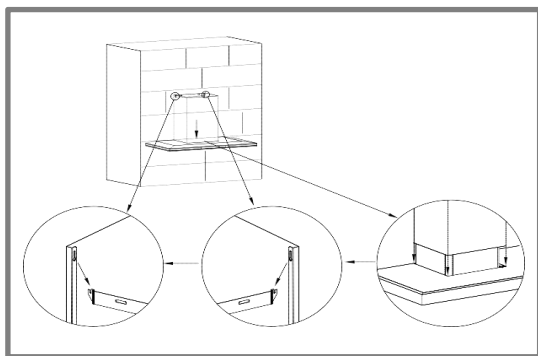
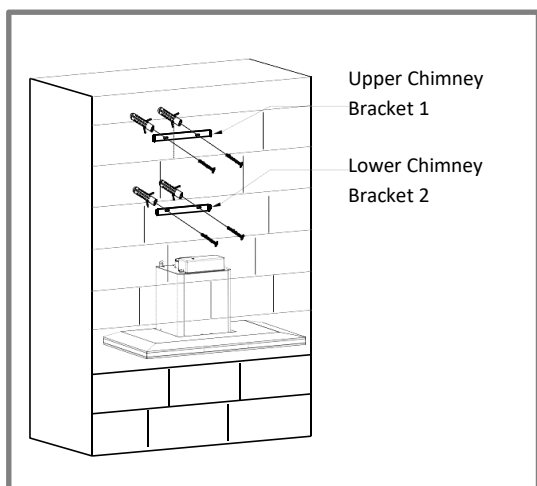
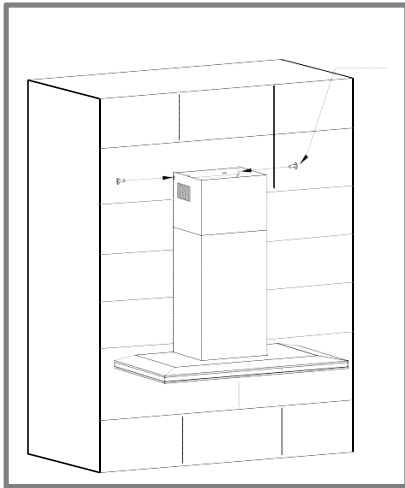

Fig.9
Fig.9.1
Fig.9.2
Step 4 (Fig.9, Fig.9.1, Fig.9.2)
- Secure the mounting bracket onto the screws firmly 1 & 2 and place the outer flue duct onto the appliances. (Fig. 9).
- Slide the outer flue duct section downwards, attached it to the left and right of the retaining bracket to engage it. (Fig. 9)
- Slide the inner flue duct to the required height and mark where the screws should be inserted and drill 8mm diameter holes to a depth of 40mm and secure the mounting bracket onto the screws provided. (Fig. 9.1)
- Use the provided ST4*8 screws to attach the inner flue duct on the left and right sides of the bracket. (Fig. 9.2)